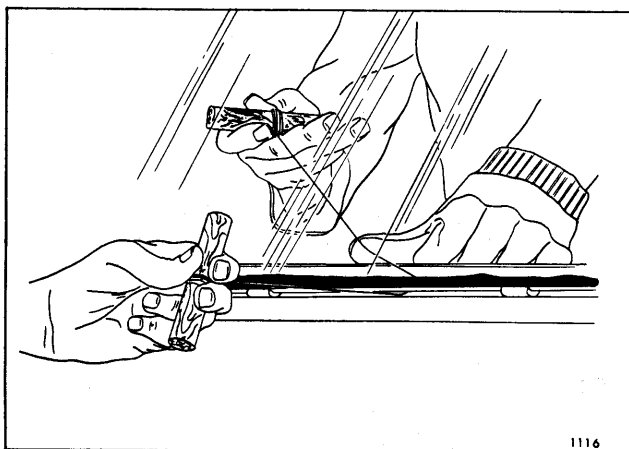

Fig. 4-1—Cutting Adhesive Material
3. Secure one end of steel music wire to a piece of wood that can serve as a handle (Fig. 4-1). Using long nose pliers, insert other end of wire through caulking material at edge of glass; then, secure that end of wire to another wood handle.
4. With the aid of a helper, carefully cut (pull wire) through caulking material around entire perimeter of window (Figure 4-1). If "short method" will be used to install new glass, hold wire close to inside plane of glass to prevent cutting an excessive amount of adhesive caulk-